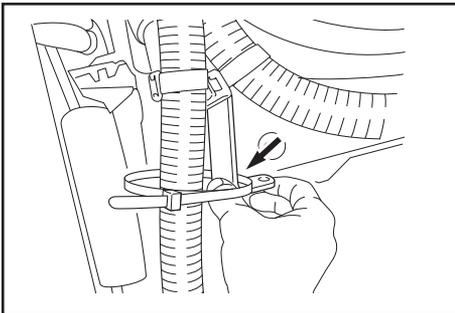

Fig. 7
- Tie wraps may have to be removed or adjusted (See Fig. 7).